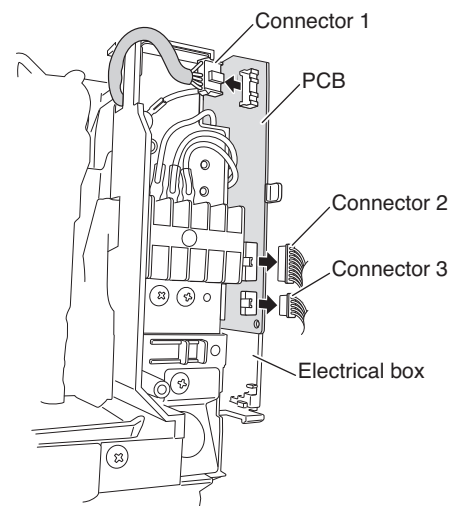

Fig. 2
- (3) Disconnect Connector 1 (7P), Connector 2 (9P), and Connector 3 (5P) from the PC board (PCB). (Fig. 2)